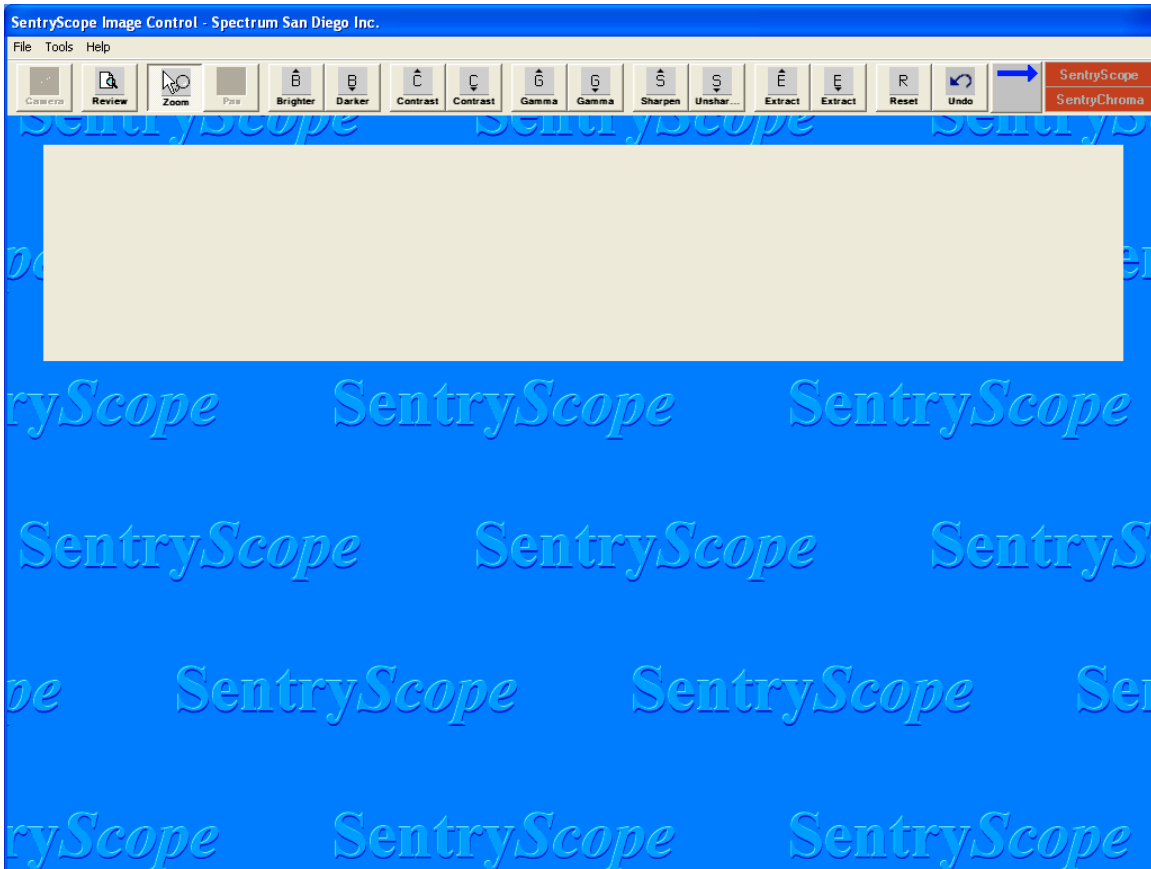

Figure 2
If the SentryChroma color camera overlay is installed, this box will look as follows (Figure 2) with status boxes for each camera:
There are three (3) pull-down menus on top from left to right in Figure 2: